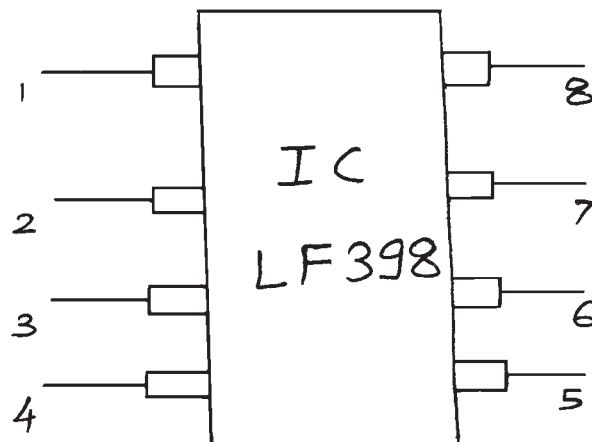

Fig No. 1.
- c) Label the pin No 1 to 8 of pin diagram of LF 398 as shown in Fig No. 1.